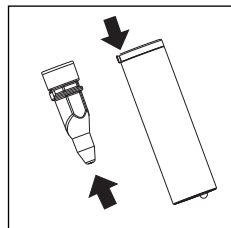

fig. 21
5. Make sure the two holes indicated by the arrows in fig. 21 are not blocked. If necessary, clean with a pin.